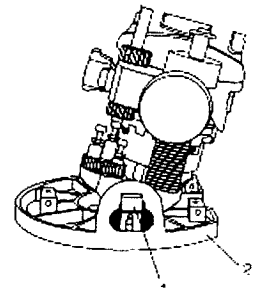

Fig. 18
- Loosen both bevel adjusting locks (1) by pulling the outward from the router base (2) (see Fig. 18).